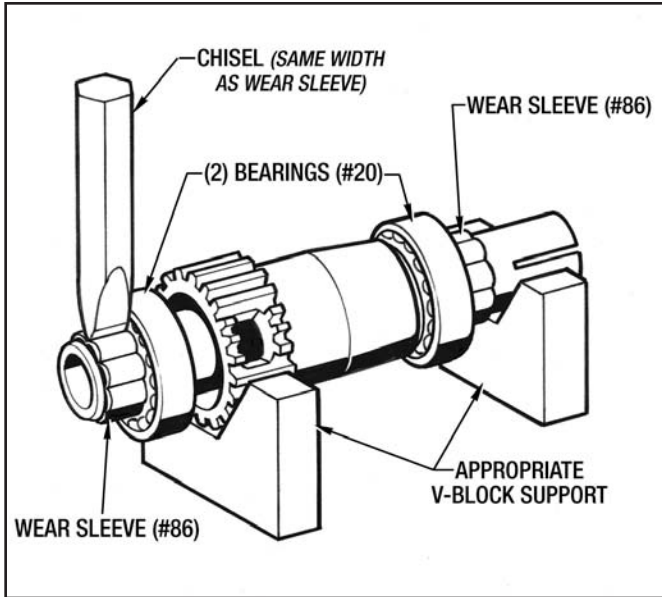

Figure 7.2 - Removing Wear Sleeves (#86)
1. Set the Hub on similar V-Block Supports as shown in *Figure 7.2*.
2. With a chisel the same width as the Wear Sleeve (#86), make about 5 or 6 notches in both Wear Sleeves (#86) as shown in *Figure 7.2*